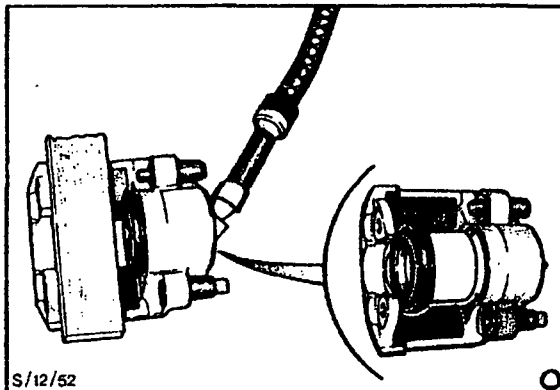

Fig.27. Use low air pressure to push out piston.
1. Disconnect flexible hose from chassis end, blank off pipe to prevent excessive fluid loss, and disconnect wear sensor wire from loom. Remove brake pads as described in operation 12-233. Fig.27.